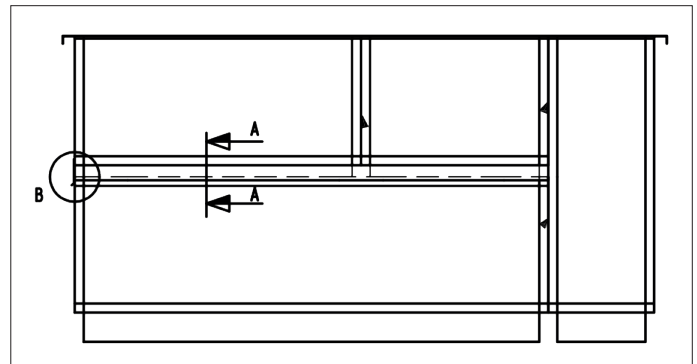

Fig. 31. Stacking, outdoor installation
- Direction 1: Cut the connection profiles to the correct length and mount them on the correct sides (See Fig. 31).